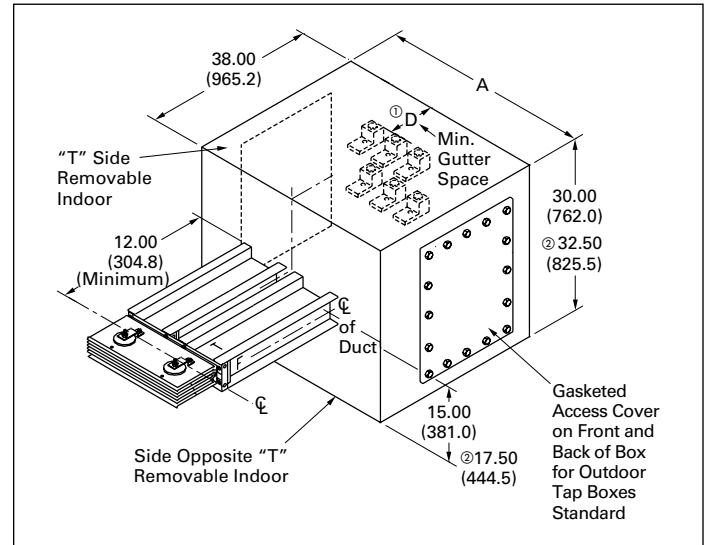

Figure 24.1-24. End Cable Tap Box
See Figure 24.1-24
③ Interpolated weights reference maximum weight per ampacity; weight is based on 1-foot stub.
④ For compression lugs, factory provides provisions only.
⑤ All dimensions shown in Figure 24.1-24 remain constant regardless of system wiring configuration.
⑥ Denotes quantity of terminals per ground bus.
⑦ Denotes quantity of terminals per phase and 100% neutral bus.
⑧ Denotes quantity of terminals per 200% neutral bus option.